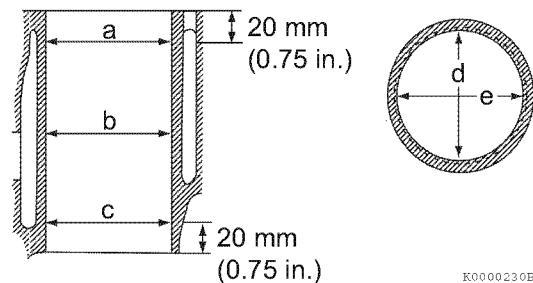

Figure 6-65
- Take measurements at three places (Figure 6-65) (a, b, and c), and in two directions (d and e) in each cylinder. Collect and record the measurements. See *Cylinder Block* on page 6-12 for specifications.